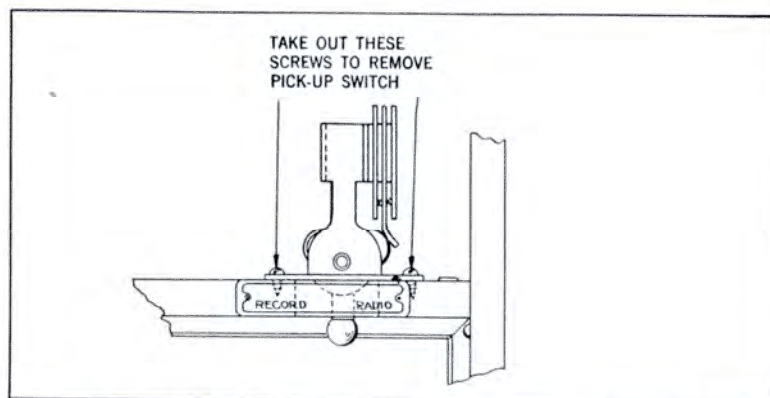
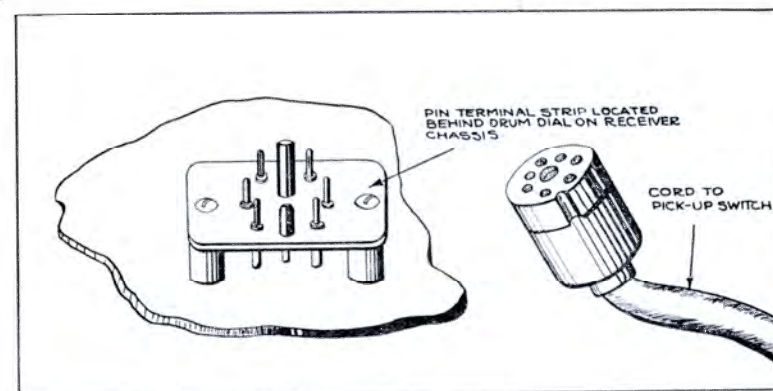

Fig. 8—Pick-up Switch mounted in place behind "Record"—"Radio" escutcheon. Switch must be removed to allow Socket-Power Unit to slide into its Compartment
Fig. 10—Multiple Connector Plug of Pick-up Switch Cord, and Strip mounting Pin Terminals with which it makes contact
2. Remove two machine screws and lift Pickup Switch (Fig. 8) out of its position behind the "Record"—"Radio" escutcheon. Lay Pickup Switch and cord along the rear side of cabinet.
5. Attach extension arm to on-off switch lever, as shown in Fig. 4. Attach Meter Adjuster knob to shaft and clamp with two set screws. Replace Pick-up Switch in position, as shown in Fig. 8, behind the "Record"—"Radio" escutcheon. Mount Pick-up Switch so that lever is inclined to left for phonograph record reproduction and points straight down for radio reception. Connect Multiple Connector Plug of Pick-up Switch Cord to its pin-terminal strip on chassis, as shown in Fig. 10.